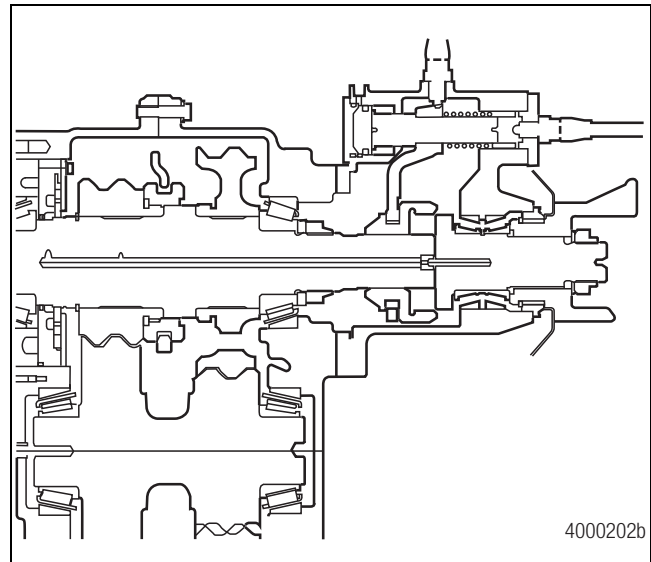

Figure 4.10
1. Rotate the transfer case in the repair stand so that the PTO assembly, if so equipped, is facing UPWARD. Figure 4.10.